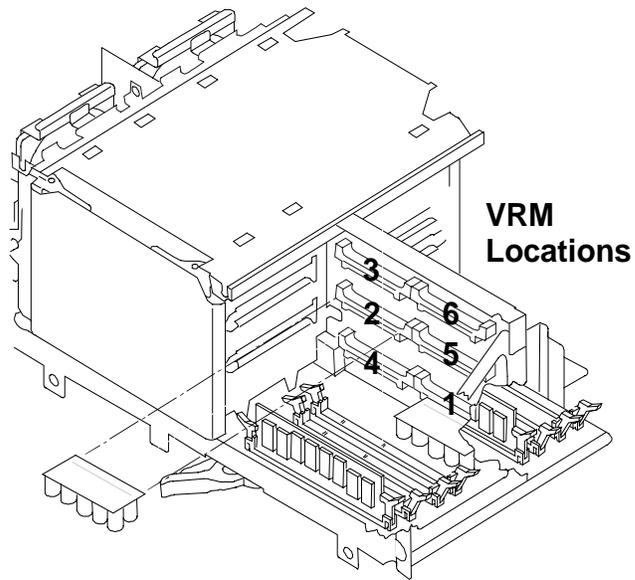

Figure 7-4. Insert the VRM
17. Gently insert the VRM into the slot (see Figure 7-4).